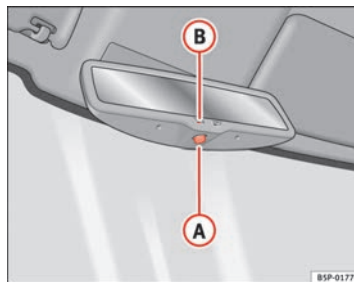

Fig. 88 Automatic anti-dazzle interior mirror.
- Press button **A** ⇒ fig. 88. Indicator lamp **B** goes off.
- Press button **A** ⇒ fig. 88. Warning lamp is lit.